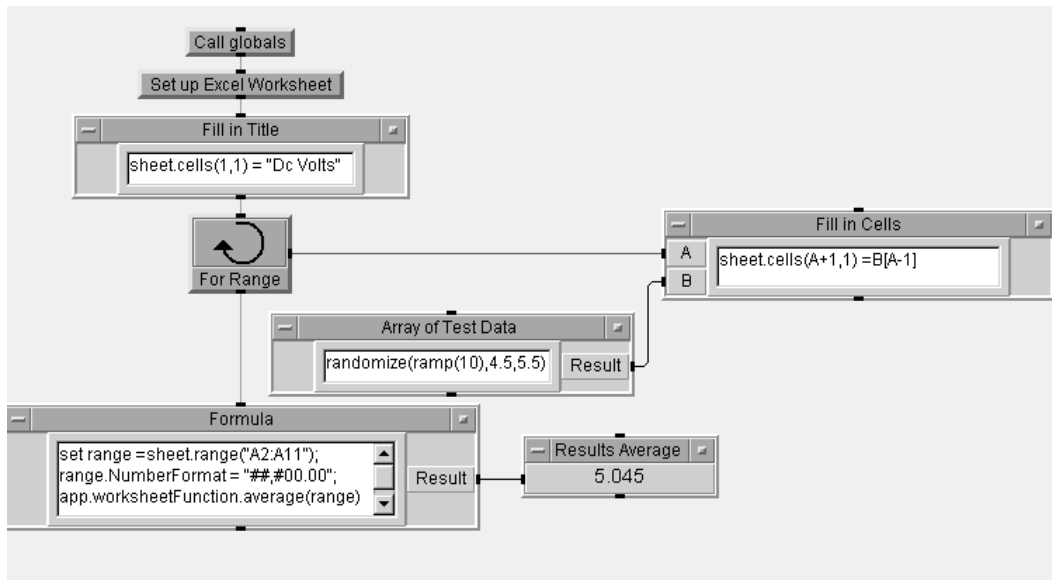

Figure 9.7. The complete Lab 9.2 program
9. Save your program again as LAB9-2. Your program should look like Figure 9.7.